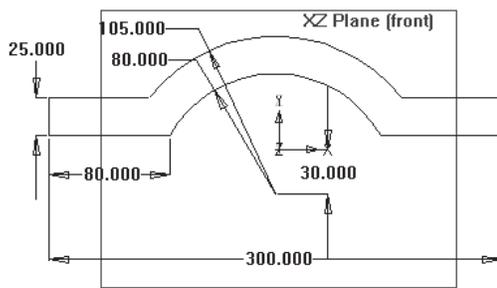

Figure 3-78 Sketch for the base feature
- Create the base feature by extruding the sketch drawn on the **XZ Plane (front)** plane, refer to Figures 3-78 and 3-79.
- Using the standard sketching tools, draw the sketch of the base feature and then apply the required relations and dimensions to the sketch, as shown in Figure 3-78.